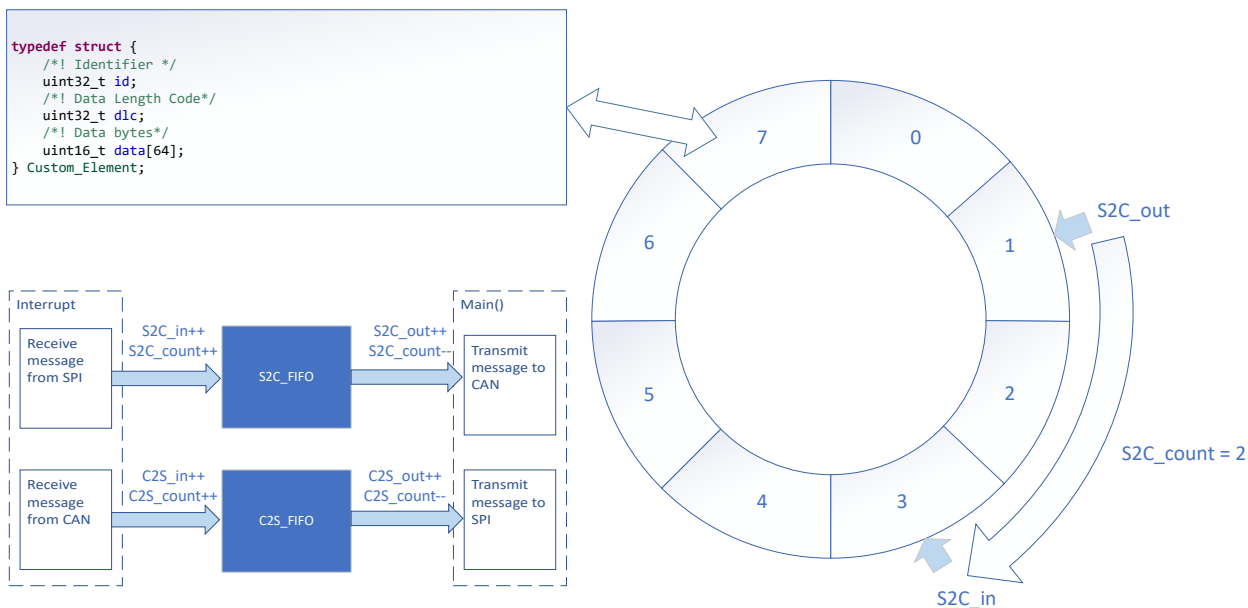

Figure 1-2. Bridge Structure
- b. Consider what information to convert and the corresponding carrier(variable, FIFO). In example code, identifier, data and data length are convert from one interface to the other interface. There are two FIFOs defined in code as shown in Figure 1-2.